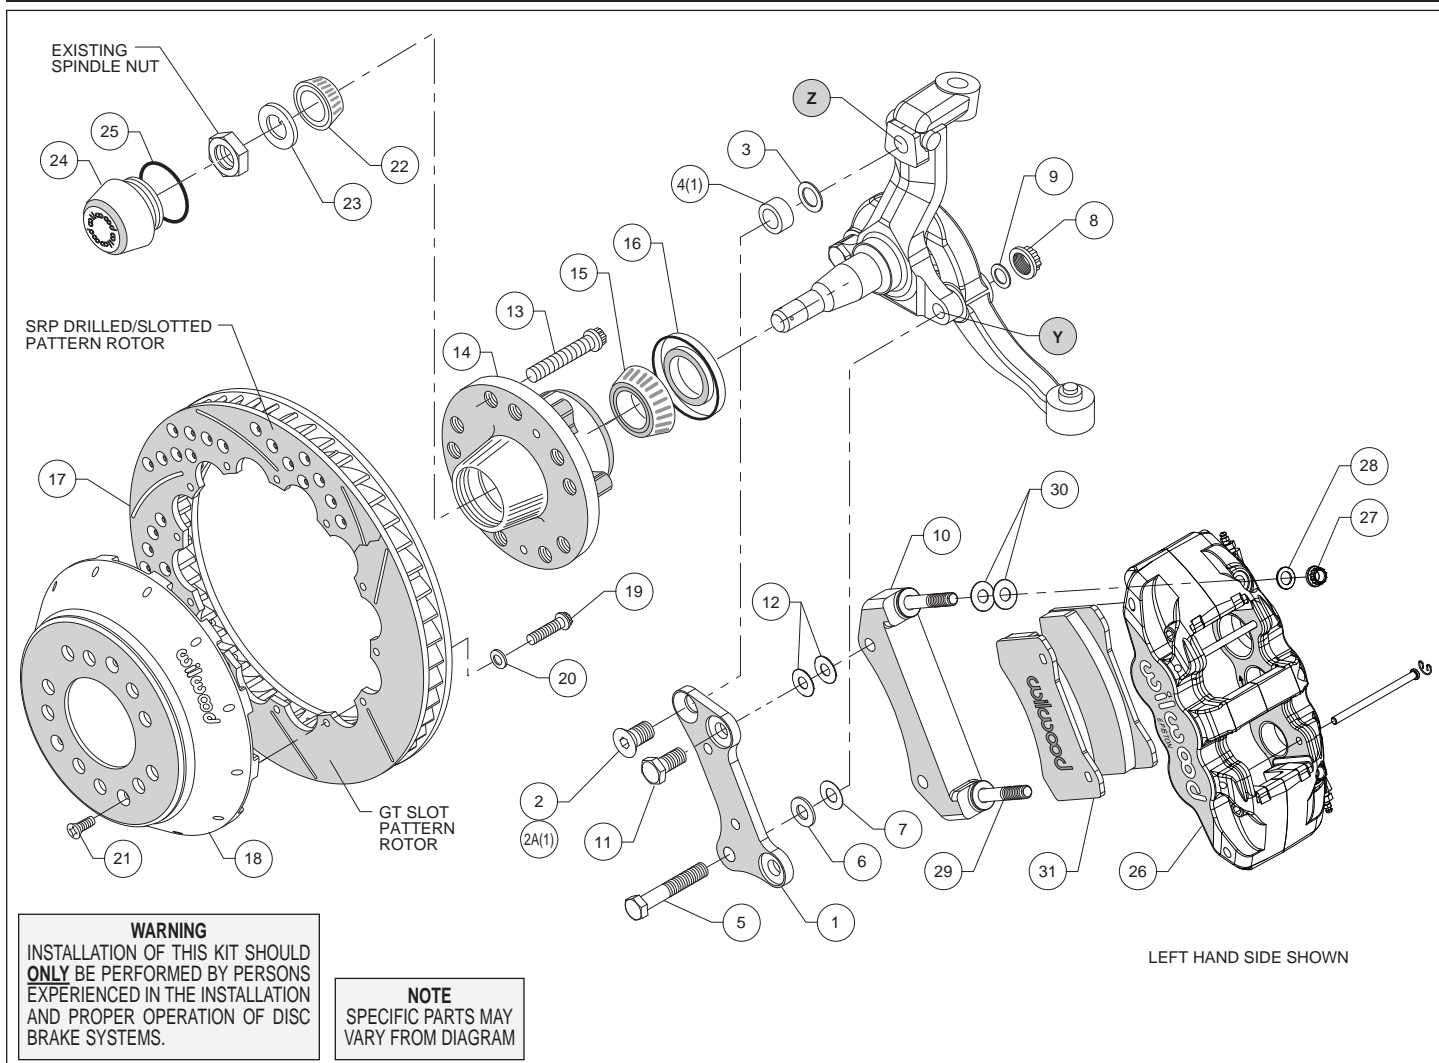
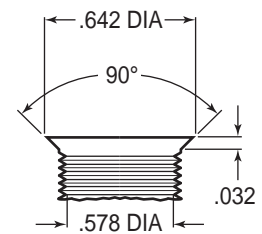
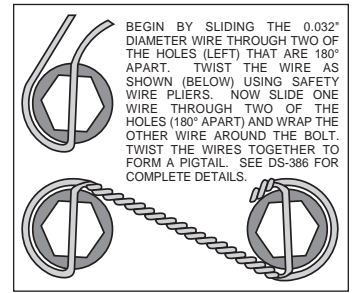

Figure 1. Typical Installation Configuration
Figure 3. Drill and Tap Detail
Figure 4. Safety Wire Diagram
**Assembly Instructions** (numbers in parenthesis refer to the parts list, and Figure 1 on the preceding pages):
- NOTE:** 1964-66 spindles may require the following modifications (reference Figures 1 and 3): Top anchor pin hole (Z) must be drilled and tapped to the dimensions as outlined in Figure 3. Bottom rear steering arm bolt hole (Y) in the spindle and steering arm must be enlarged to .50" by drilling.
- Install wheel studs (13) into the hub (14), Photo 1. Torque to 77 ft-lb. **NOTE:** There are two five lug patterns in the hub (5 x 4.50 and 5 x 4.75). Ensure the correct hub stud pattern is being used to fit the wheel application.
- Pack the large inner bearing cone (15) with high temperature disc brake bearing grease (available from your local auto parts store) and install into the backside of the hub (14), Photo 2.
- Install the grease seal (16) by pressing into the backside of the hub (14), flush with the end of the hub, Photo 2.
- Orient the rotor (17) and the hat (18) as shown in Figure 1 and Photo 3. Attach rotor to hat using bolts (19) and washers (20). Using an alternating sequence, apply red *Loctite*® 271 to the threads, and torque to 155 **in-lbs**. For an added measure of security, the bolts may be safety wired using standard 0.032 inch diameter stainless steel safety wire as shown in Figure 4. Please refer to Wilwood's data sheet DS-386 (available at for complete safety wire installation instructions.
- Attach caliper mounting bracket (1) to spindle face using lower bolt (5), and a .090" thick spacer (6) positioned between the bracket and the spindle face, as shown in Figure 1. Secure bolt on the backside of the steering arm with washer (8) and lock nut (9). Finger tighten. Install upper bolt (2) (for drum spindle) or bolt (2A) with spacer (4) between bracket and spindle (for disc brake spindle). Ensure that the flanged heads of the clinch nuts in the bracket are facing outboard. Temporarily tighten the mounting bolts and install the new hub (14) and rotor assembly (17/18). Check that the bracket is aligned parallel to the rotor, Photo 4. If
not, adjust by adding shim washers (3 and/or 7) between spacers (4 and/or 6) and the bracket, Figure 1. Once the bracket alignment is correct, remove the upper bolt (2 or 2A), apply red *Loctite*® 271 to bolt threads, and torque to 120 ft-lb. Torque lock nut (8) to 65 ft-lb.
- The radial mount caliper bracket (10) should initially be installed with clean dry threads on the mounting bolts. Orient bracket as shown in Figure 1, and install using bolts (11). Initially place two shims (12) on each bolt between the two brackets. Temporarily tighten the mounting bolts. Later, after the caliper alignment has been checked, the mount bolts will be secured using red *Loctite*® 271.
- Pack the small outer bearing cone (22) with high temperature disc brake bearing grease and install into hub (14). Final install the hub assembly onto the spindle. Secure using spindle washer (23), and OEM spindle nut, Photo 5. Adjust bearings per OEM specifications. Install new cotter pin (not included).
- Final install the hat/rotor (17/18) onto the hub (14) taking care to align the small countersunk holes in the hat with the small threaded holes in the hub. **NOTE:** The hat must fit flush against the hub face or excessive rotor run out may result. Install three flat head screws (21) through the small holes in the hat (18), Photo 7, and torque to 85 in-lb.
- NOTE:** This kit contains distinct right and left hand calipers that must be mounted in a specific direction, as described below. Lubricate the caliper mounting studs (29) with lightweight oil. Initially place two .030" thick shims (30), on each stud between the caliper and the bracket, as shown in Figure 1 and Photo 8. Mount the caliper (26) onto the bracket (10) using lock nuts (27) and washers (28), Figure 1. Ensure that the caliper is mounted so the largest pistons are at the rotor exit end of the caliper, in relation to the direction of rotor rotation. Temporarily tighten the lock nuts and view the rotor through the top opening of the caliper. The rotor should be centered in the caliper, Photo 9. If not, adjust by adding or subtracting shims (12) between the flat bracket and the radial mount bracket. Always use the same amount of shims on each of the two mounting bolts. Once the caliper alignment is correct, remove the radial mount bracket bolts one at a time, apply red *Loctite*® 271 to the threads, and torque to 77 ft-lb.
- Remove the two pad retaining pins from the caliper (26) by carefully popping out the pin retaining clips and sliding out the pins. Insert the brake pads (31) into the caliper from the bottom, Figure 1, Photo 10. With the friction material facing the rotor, secure the brake pads in place with the pad retaining pins and clips, Photo 11. Reinstall the caliper onto the caliper mounting bracket and temporarily tighten the lock nuts. Check that the top of the brake pad is flush with the outside diameter of the rotor, Photo 12. If not, adjust by adding or subtracting shims (30) between the caliper and the bracket. After the caliper pad height is set, torque the caliper lock nuts (27) to 47 ft-lb.